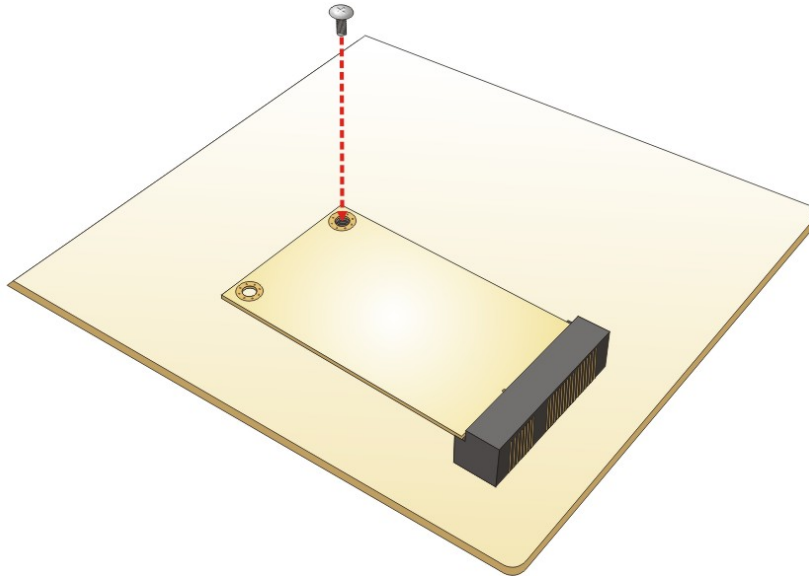

Figure 4-4: Securing the PCIe Mini Card
**Step 4:** **Secure the PCIe Mini card.** Secure the PCIe Mini card with the retention screw previously removed (**Figure 4-4**).